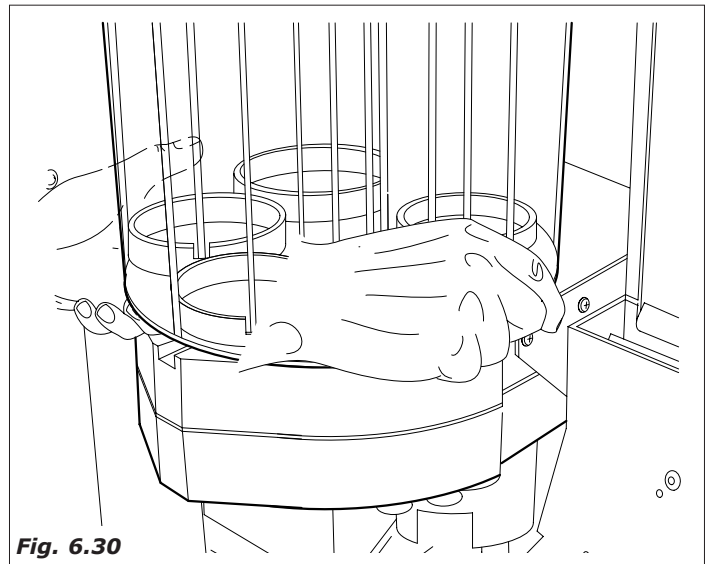

Fig. 6.30
- remove the cup turret (Fig. 6.30)